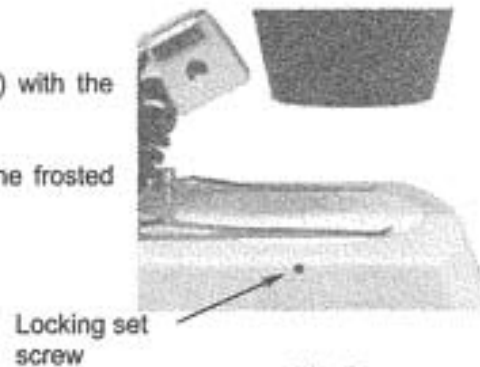

Fig. 2
- a. Loosen the locking set screw (Fig. 2) with the key provided, and remove stage (9).
- a. Loosen the stage fixing screw (Fig. 2) with the key provided, and remove the stage (9).